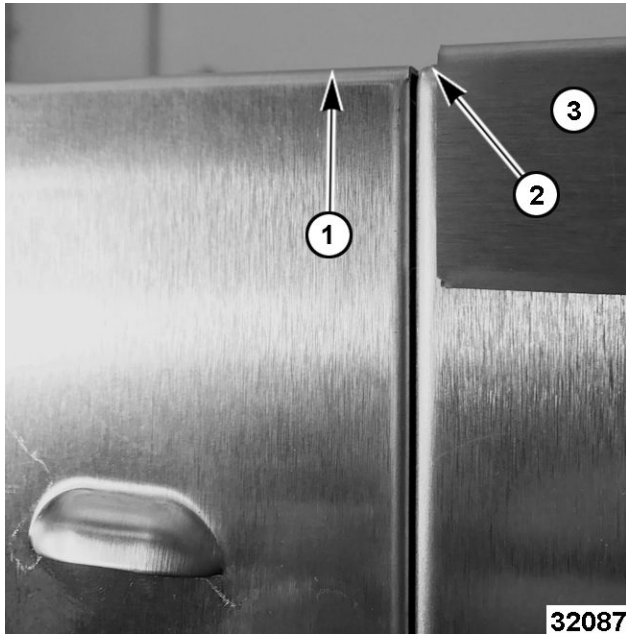

Fig. 113
3. Adjust the control panel (1, Fig. 113) until it is flush with the frame (2, Fig. 113) of the oven along the top (Fig. 112) and side. Not with the top trim (3, Fig. 113).